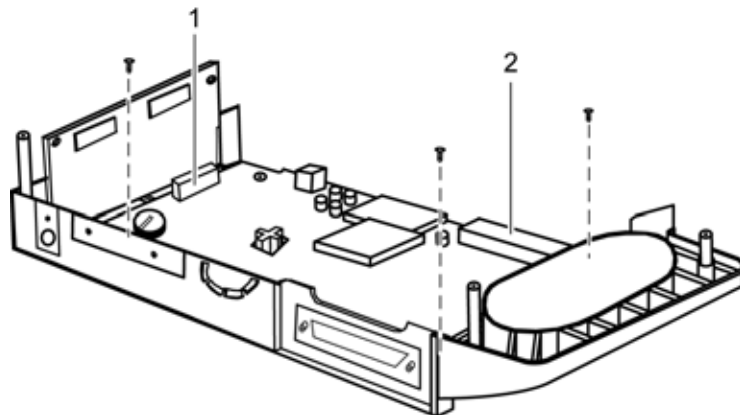

Figure 26: Main PCB Removal
7. Remove the bracket screw, item 2, connected to the front PCB.
9. Disconnect the MP-506 to main PCB cable from the main PCB connector. See Figure 26 item 1.